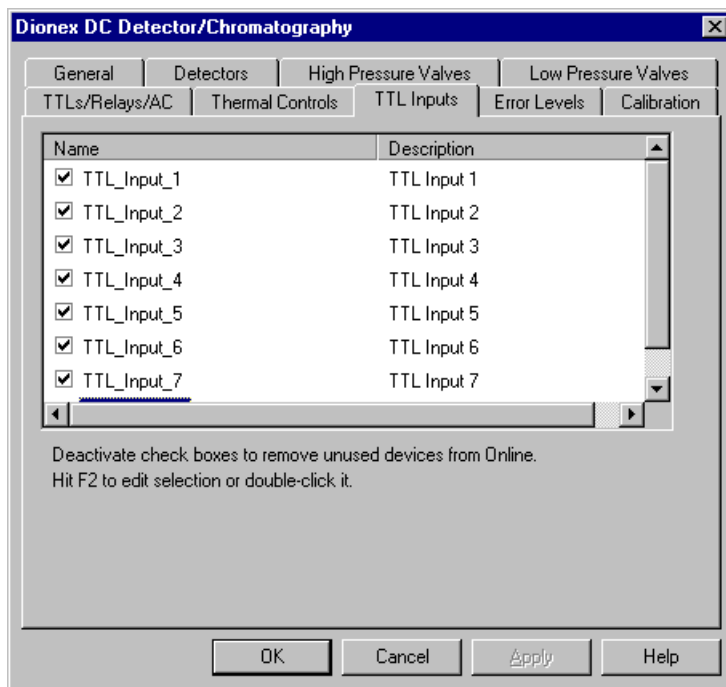

Figure 2-49. DC Server Configuration Properties: TTL Inputs
3. Select the **TTL Inputs** tab (see Figure 2-49).